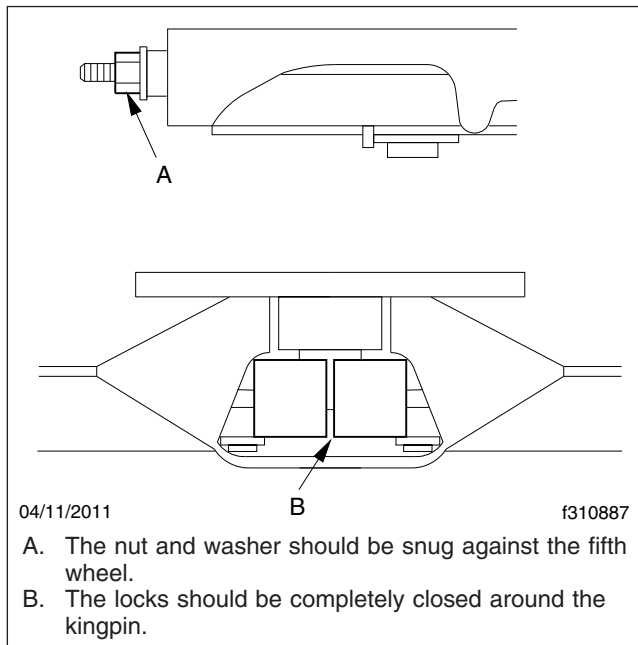

Fig. 3, Holland Fifth Wheel Properly Closed
5. Using a Holland Kingpin Lock Tester (Holland tool number TF-TLN-5001, available through the PDCs as HLD TFTLN5001), check the operation of the locking mechanism by opening and closing the locks. See **Fig. 3**.